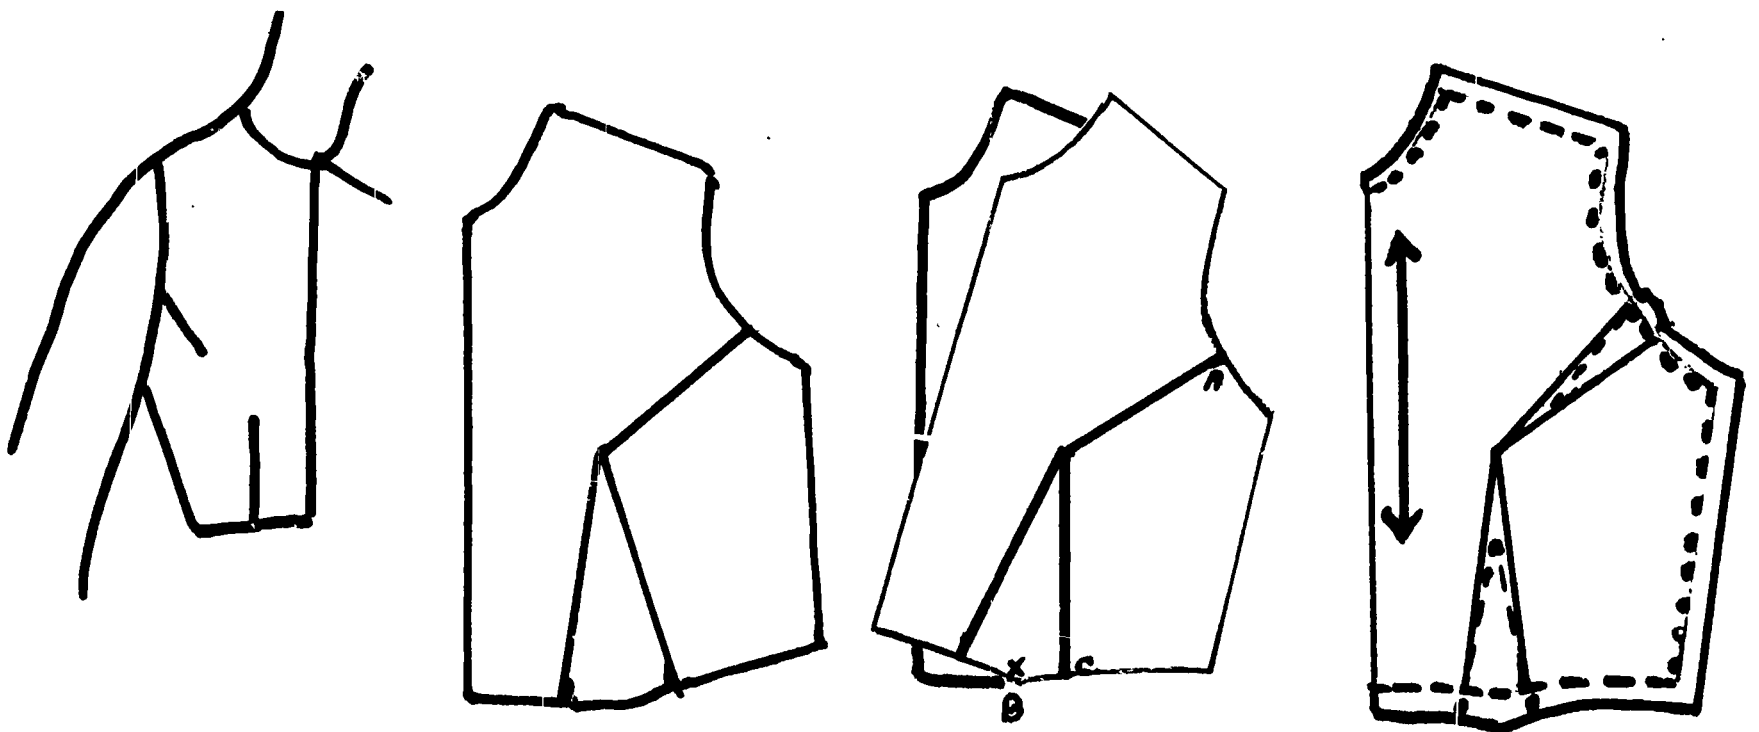

Fig. 98
- b. waist and armhole (Fig. 98).